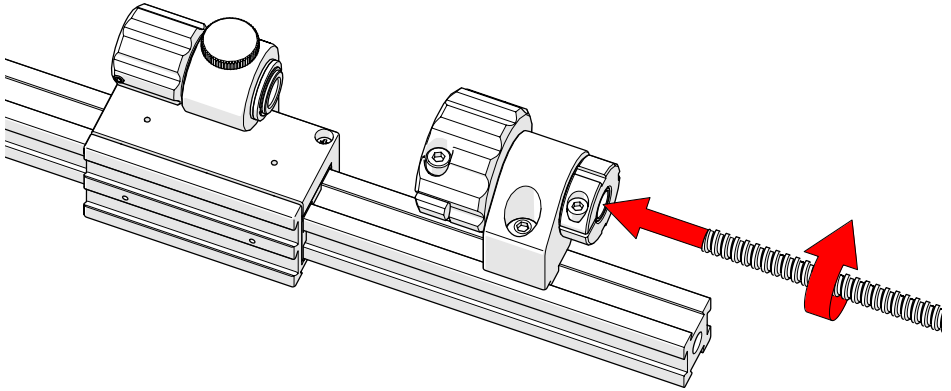

Fig. 68 - Insert leadscrew into main knob and slider
5. Rotate the leadscrew to insert it into the main knob and slider (Fig. 68).